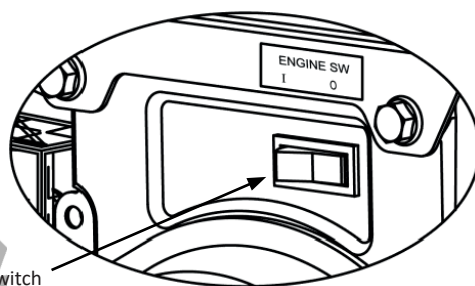

Fig. 4
**Engine switch (Fig. 4)**
3. Turn the engine switch to the “I / ON” position. (See page 4, fig. 4)
To stop the engine in an emergency, turn the engine switch to the “O” position. (See page 4, fig. 4)
2. Turn the engine switch to the “O/STOP” position. (See page 4, fig. 4)